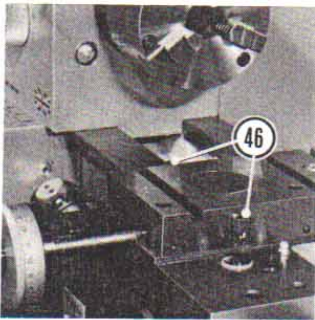

Fig. 29
The unit may be removed complete by releasing the two square head screws, one to the right and one to the left of the cross slide (46) (Fig. 29. ). Both screws should be withdrawn a full 7mm (1/4"). The unit may then be lifted clear of the cross slide.